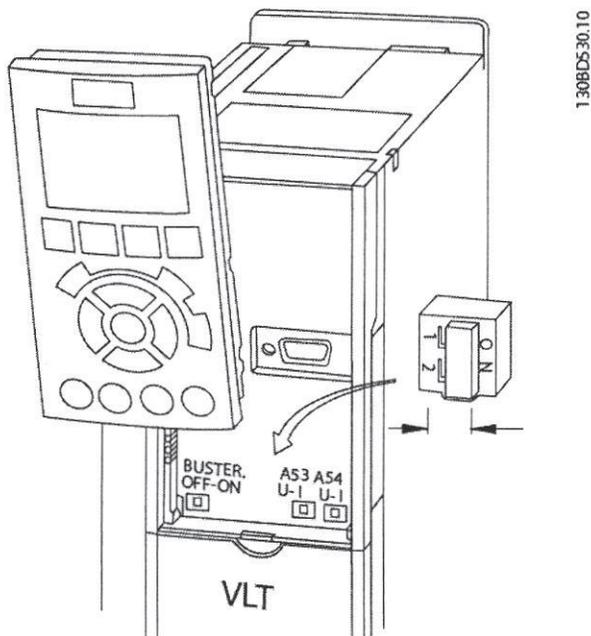

Figure 4.10 Location of Terminals 53 and 54 Switches
1. Remove the local control panel (see *Figure 4.10*).